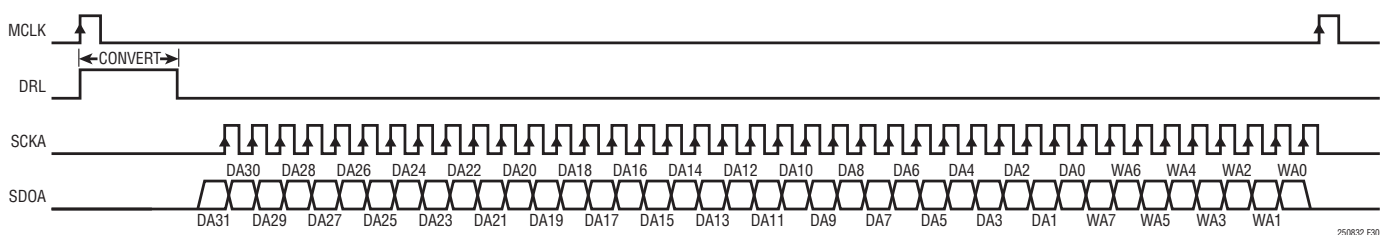

Figure 30. Using LTC2508-3 to Read Filtered Output
An 8-bit configuration word, WA[7:0], is appended to the 32-bit output code on SDOA to produce a total output word of 40 bits as shown in Figure 30. The configuration word designates which downsampling factor (DF) the digital filter is configured to operate with. Clocking out the configuration word is optional. Table 3 lists the configuration words for each DF value.